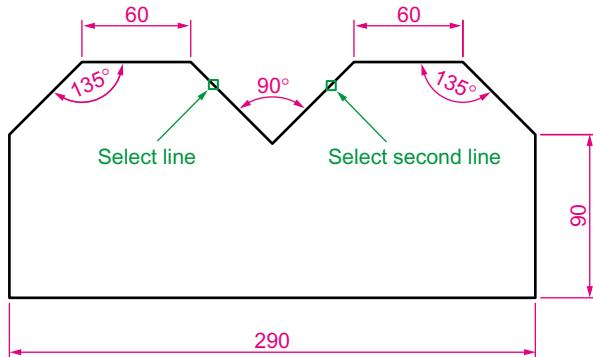

Fig. 6.10 Second example – an (Angular) dimension
**Second example – an (Angular) – Fig. 6.10**
The result is given in Fig. 6.10.